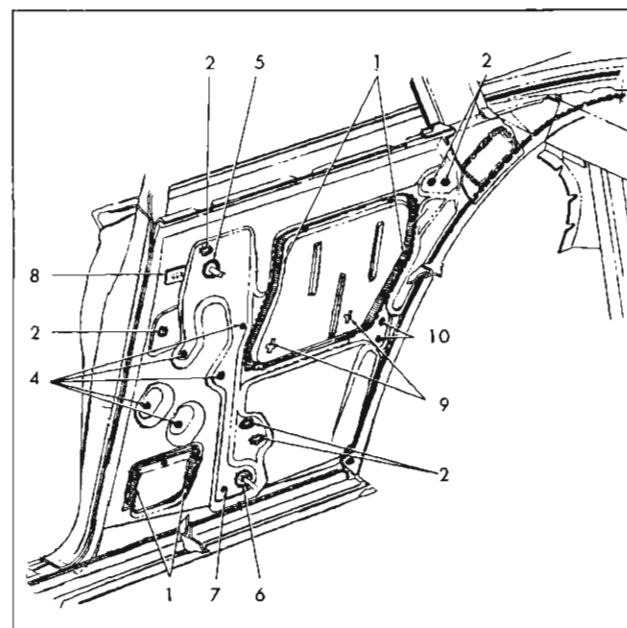

Fig. 67—Rear Quarter Inner Panel Sealing—11 Styles—Electric
- "11" styles (Electric)-Figure 67